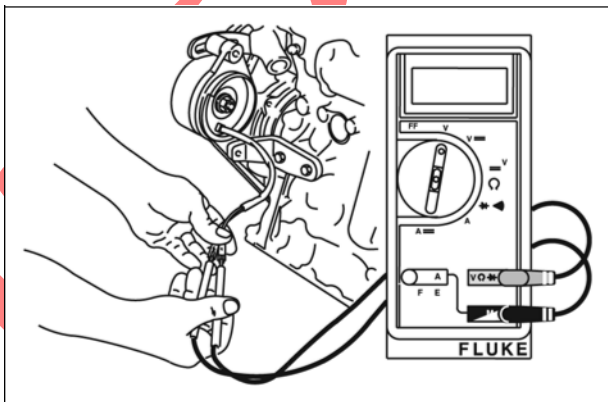

Figure 12
3. Attach meter test leads to alternator output connectors **BEFORE** starting the engine (Figure 12).